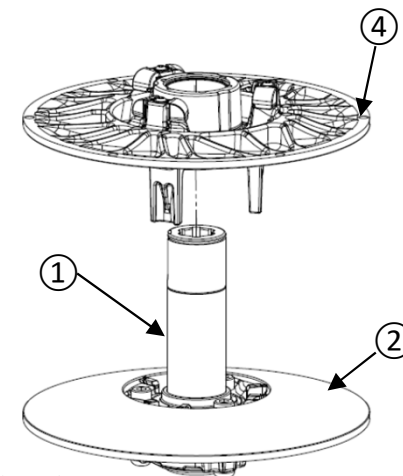

Figure 31
- Put the sliding sheave ④ on the fixed sheave ② and the shaft assembly ① (figure 31).